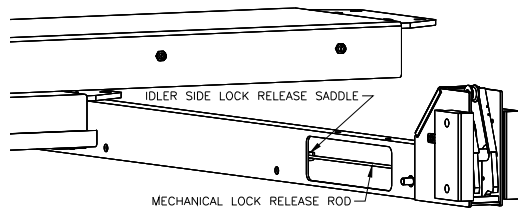

Fig 9 – Mechanical Lock Rod
- 12) Remove the four (4) cross beam sheaves (one sheave from each end). The runway sheave pins do not need to be removed.
- 13) Place the mechanical lock release rod into the saddle on the idler side of the cross beam, **Fig 9**.